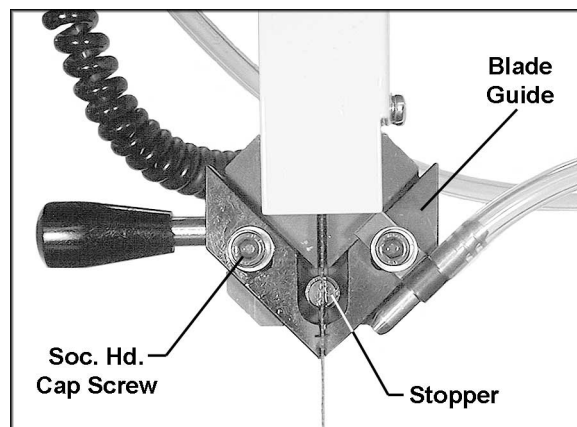

Figure 9
6. Loosen the socket head cap screws (Figure 9) on the blade guides.
8. Tighten the socket head cap screws (Figure 9). Make sure the air nozzle is still directed properly toward the cutting area.